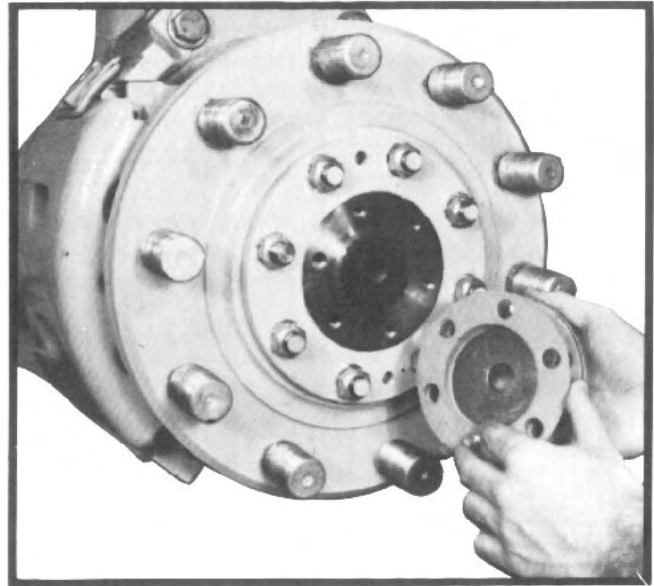

Fig. 8
4. Remove or install shims under the cap as necessary to achieve dimension noted above (See fig. 8).